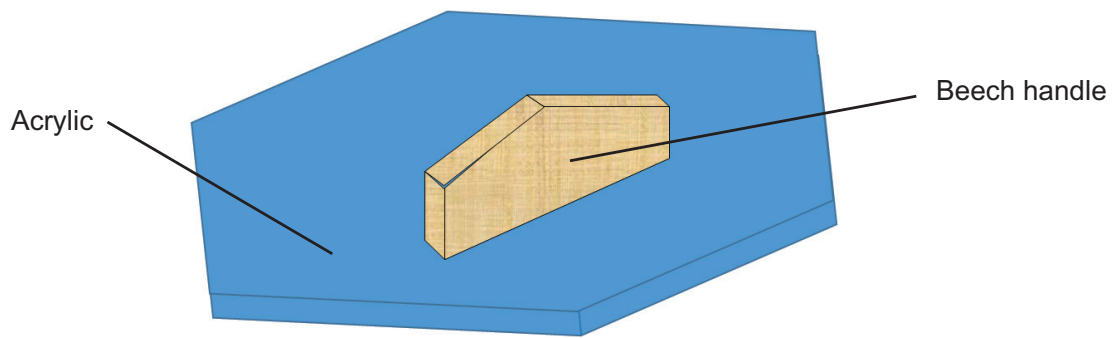

Fig. 2
- 2 Fig. 2 shows a sketch of the lid for a box. The two materials used in the manufacture of the lid are acrylic and beech. The acrylic part of the lid is to be produced using a CAD/CNC process in a school workshop.